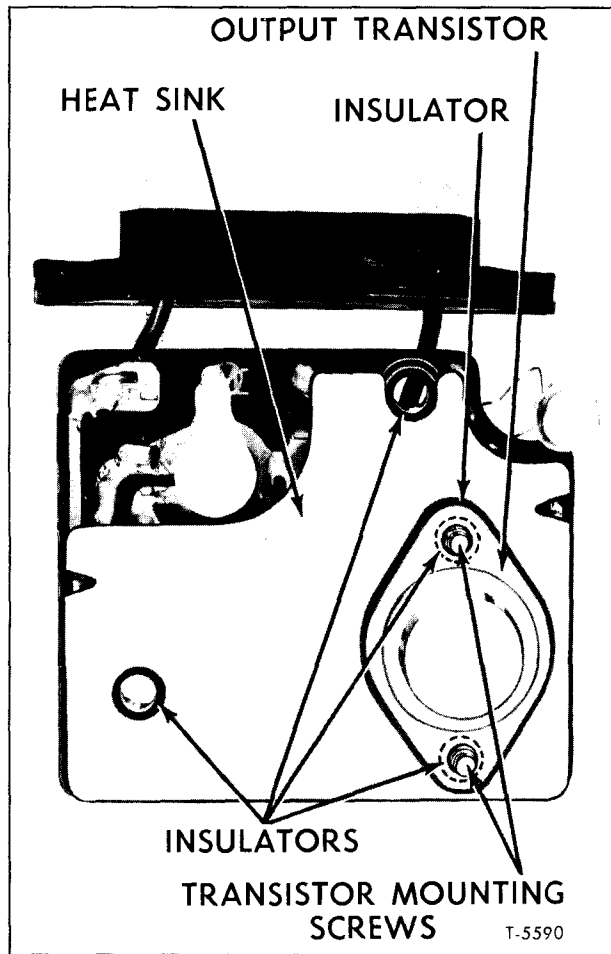

Figure 25—Heat Sink and Circuit Board Assembly
4. Note the insulation between the output transistor and heat sink, and the insulators separating the heat sink from the panel board (fig. 25).
If a component part on the panel board is found to be faulty, it should be replaced before proceeding with the remaining checks. A 25-watt soldering gun is recommended, and a 60% tin 40% lead solder should be used when re-soldering. Avoid excessive heat which may damage panel board traces. Component parts are identified in figures 25 and 26.
NOTE: Refer to figures 25 and 26 for identification and location of following connections:
Connect the ohmmeter as shown in figure 25. If the reading is infinite, the thermistor is open and should be replaced.